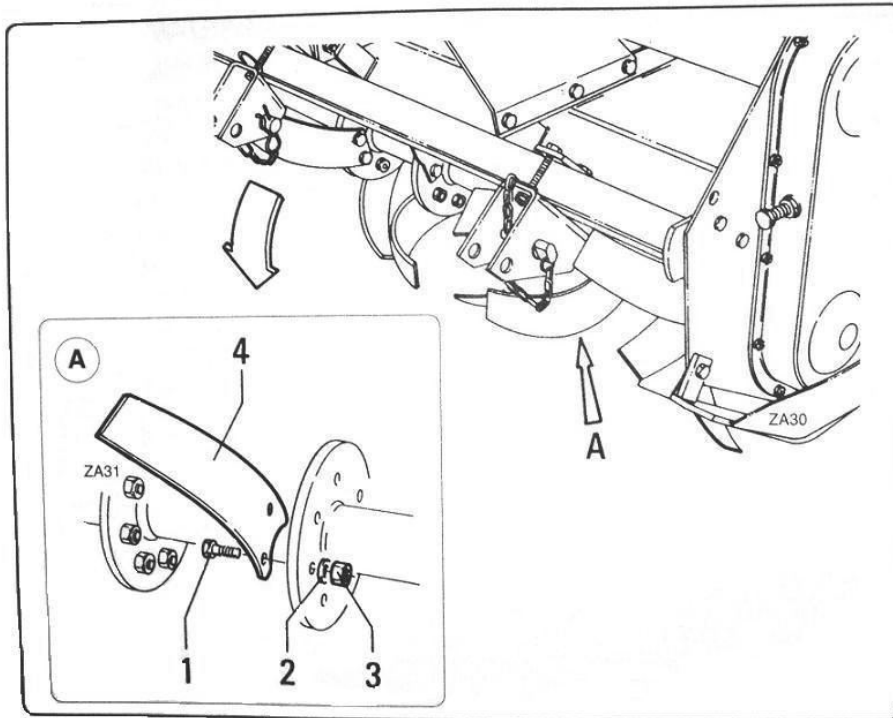

fig. 7.5.3
7.5.4 - Changing the hoe blades (fig. 7.5.3)
- The hoe blades “4” fig. 7.5.3 must be replaced if they are damaged, bent, worn blunt or liable to break during work.